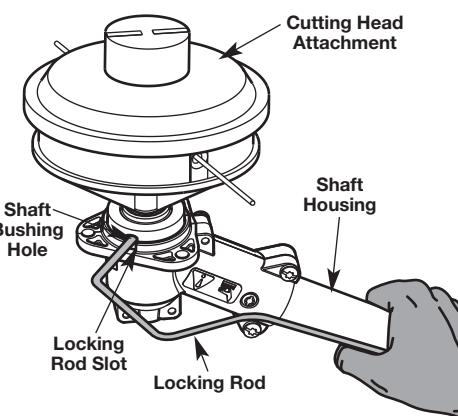

Fig. 7
2. Position the cutting head attachment as shown (Fig. 7). Align the shaft bushing hole with the locking rod slot. Insert the locking rod into the shaft bushing hole.
3. Hold the locking rod in place by grasping it next to the boom of the shaft housing (Fig. 7).